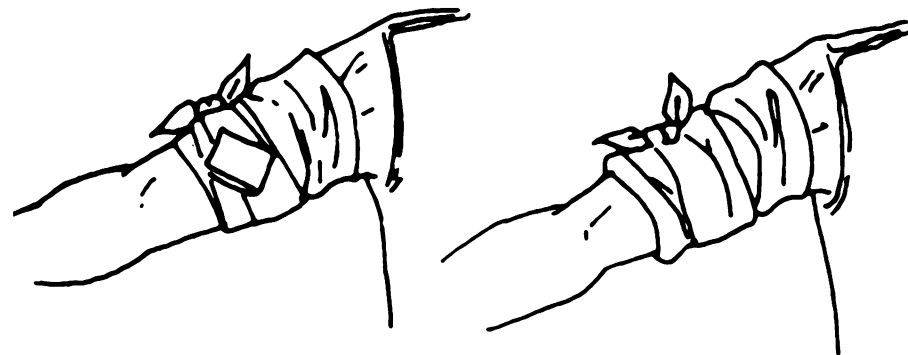

Figure 3. Padding placed on dressing for pressure.
- (1) Put additional pressure on the wound by placing a thick wad of padding (socks, handkerchief, etc.) on top of the first aid dressing at the location of the wound (fig 3).